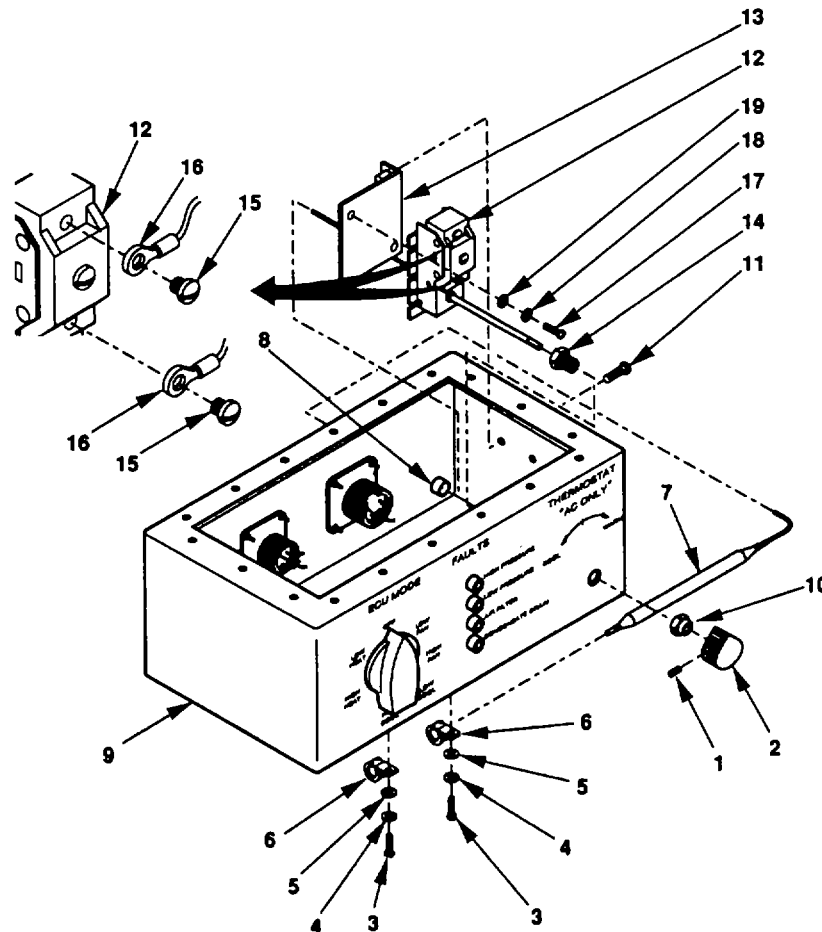

Figure 4-17. Thermostat Maintenance
- (1) Loosen two set screws (Figure 4-17, 1) and remove knob (2).
- (2) Remove two screws (3), lock washers (4), flat washers (5), and cushion clamps (6). Remove thermostat sensing bulb (7) from cushion clamps (6). Discard lock washers (4).